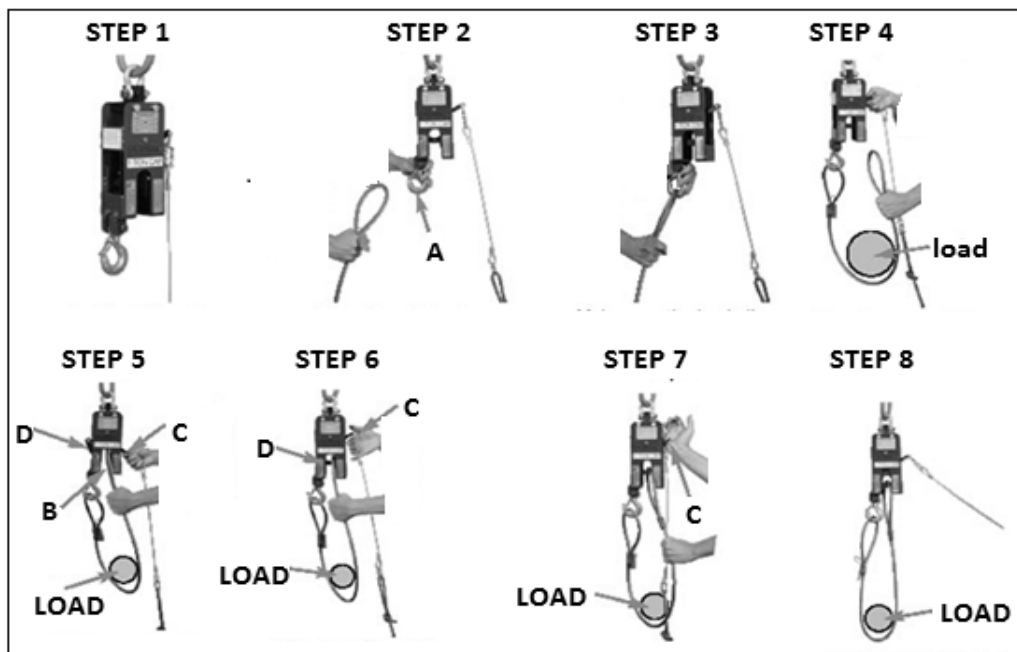

FIGURE 4 (8)
5.1 Explain each step in FIGURE 4 showing how to basket-hitch a load onto a detaching device. Write only the answer next to the step number (1–8) in the ANSWER BOOK.